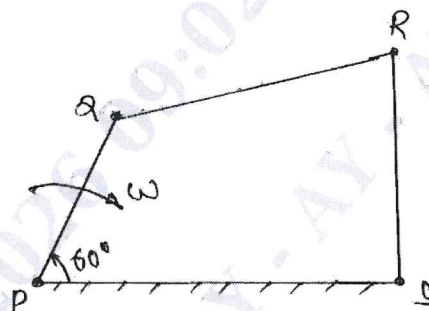

Fig.Q2
- 2 PQRS is a four bar mechanism with link PS fixed as shown in Fig.Q2. The lengths of the links are PQ = 62.5 mm, QR = 175 mm, RS = 112.5 mm, PS = 200 mm. The crank PQ rotates at 10 rad/sec clockwise. Draw the velocity and acceleration diagrams when angle QPS = 60° and 'Q' and 'R' lie on the same side of PS. Find angular velocity and angular acceleration of links QR and RS.